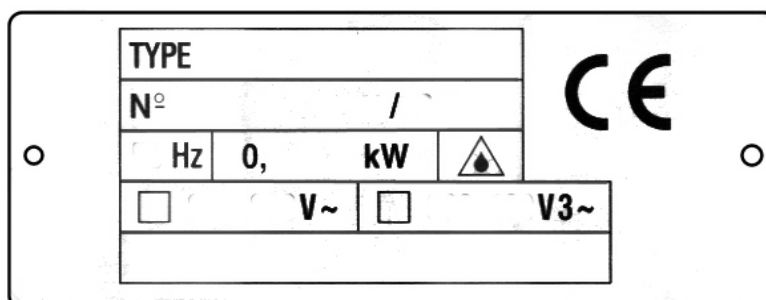
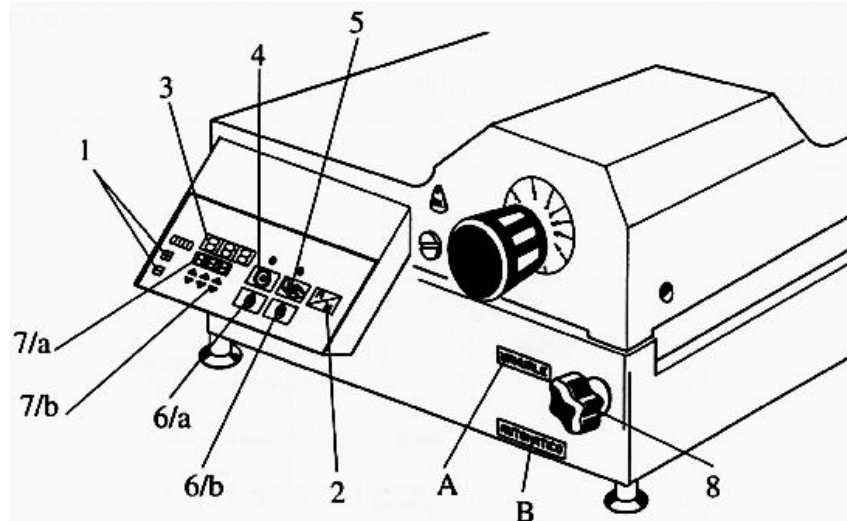

Fig. 5
Fig. 8
At this point, ensure that the earthing system is in perfect working order. Also check that the type of current indicated on the identification plate (Fig. 5) is consistent with the voltage (V) and frequency (Hz) of the power line.
Connect the slicing machines to the 400 Volt 50 Hz three phase mains using a CEI plug (red), interposing a 10A, I n = 0.03 A RCD/circuit breaker. At this point, ensure that the earthing system is in perfect working order. Also check that the type of current indicated on the identification plate (Fig. 5) is consistent with the voltage (V) and frequency (Hz) of the power line. Before connecting the machine permanently to the three phase supply line, check the direction of rotation of the blade by briefly pressing the start blade button then pressing the stop blade button (Fig. 8).
2. press the start blade button (Fig. 8) and check that the blade is moving. Press the stop blade button and check that the blade comes to a halt;
1. Release the carriage by turning the selector (8) to the manual position (A).
2. Press the start blade button (4) and check that the carriage slides manually. At the end of the machine operation, press the stop blade button (6/a) (Fig. 8).